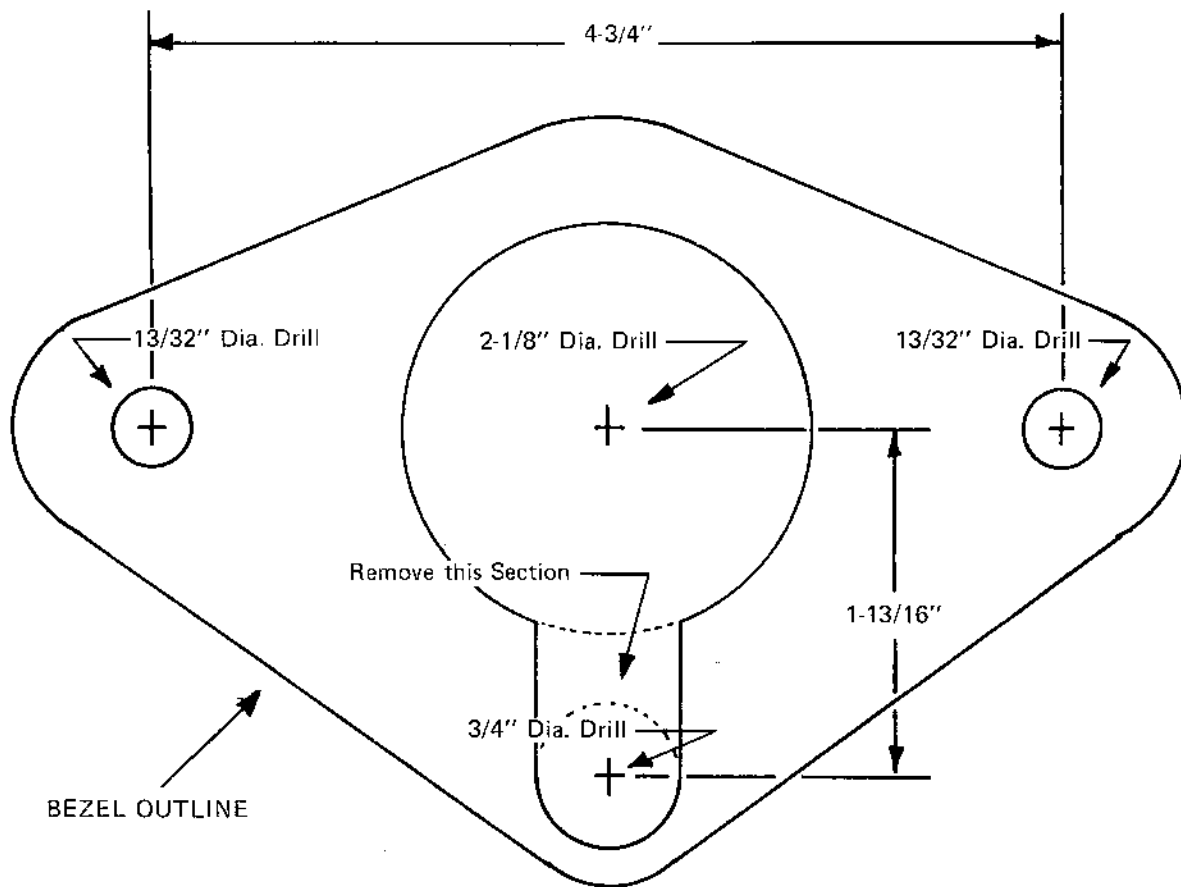

FIG. 4
- Drill mounting holes as indicated on template, Fig. 4, and secure helm pump, bezel and adjusting knob.